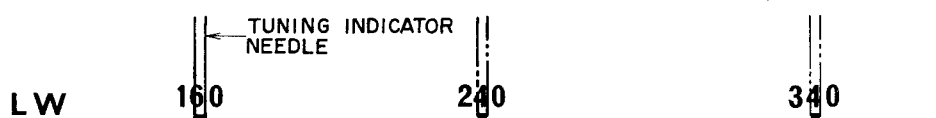

Fig. 30
- 8) For dial setting positions, see Fig. 30.